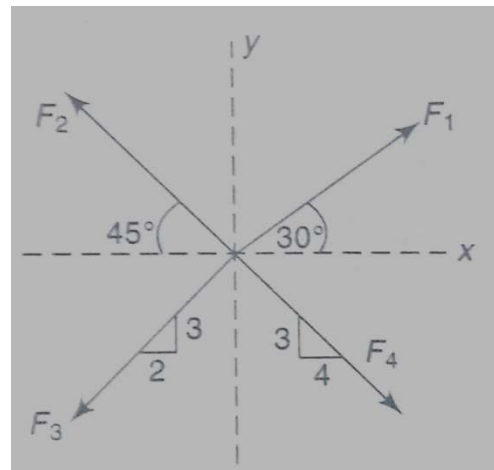

Figure 1.15
21. Using the method of projections, find the magnitude and direction of the resultant R of the four concurrent forces shown in Figure 1.15 and having the magnitudes $F_1 = 1500 \text{ N}$, $F_2 = 2000 \text{ N}$, $F_3 = 3500 \text{ N}$ and $F_4 = 1000 \text{ N}$.